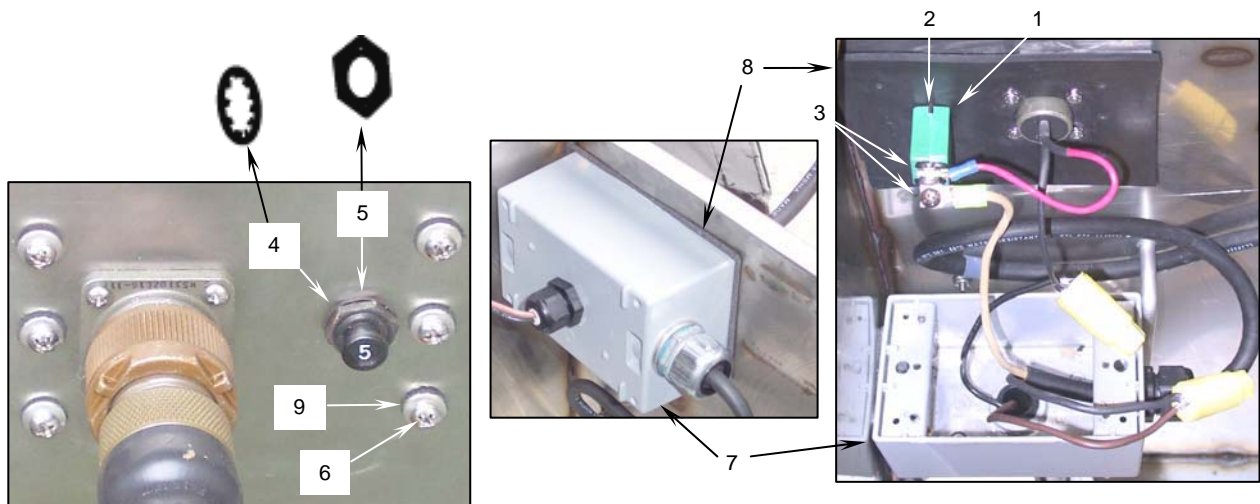

Figure 3. Installing the Grease Separator Circuit Breaker.
- a. Orient the new circuit breaker (**Figure 3, item 1**) so that the orientation tab (**Figure 3, item 2**) is at the top.
- b. Connect the two wires (**Figure 3, item 3**) to the new circuit breaker terminals as tagged.
- c. Insert the new breaker into the grease separator enclosure, ensuring that the orientation tab (**Figure 3, item 2**) fits into the notch inside the enclosure above the opening.
- d. Secure the breaker to the enclosure using the lock washer (**Figure 3, item 4**) and the lock nut (**Figure 3, item 5**).
- e. Coat the terminal connections (**Figure 3, item 3**) at the back of the circuit breaker with corrosion preventative sealant.
- f. Apply sealing compound to the threads of the six machine screws (**Figure 3, item 6**).
- g. Position the weatherproof box (**Figure 3, item 7**) on the gasket (**Figure 3, item 4**) and the wall of the grease separator and secure with the six sealing washers (**Figure 3, item 2**) and machine screws (**Figure 3, item 6**).